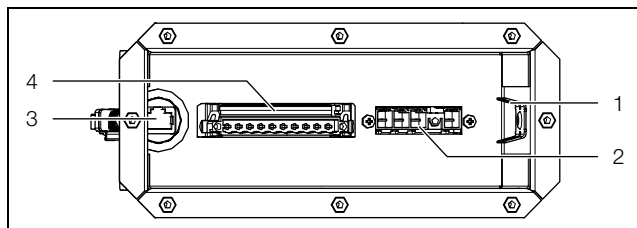

Fig. 13: Connection box
- The cable shielding can contact the earth terminal to the enclosure inside the connection box (fig. 13, item 1).